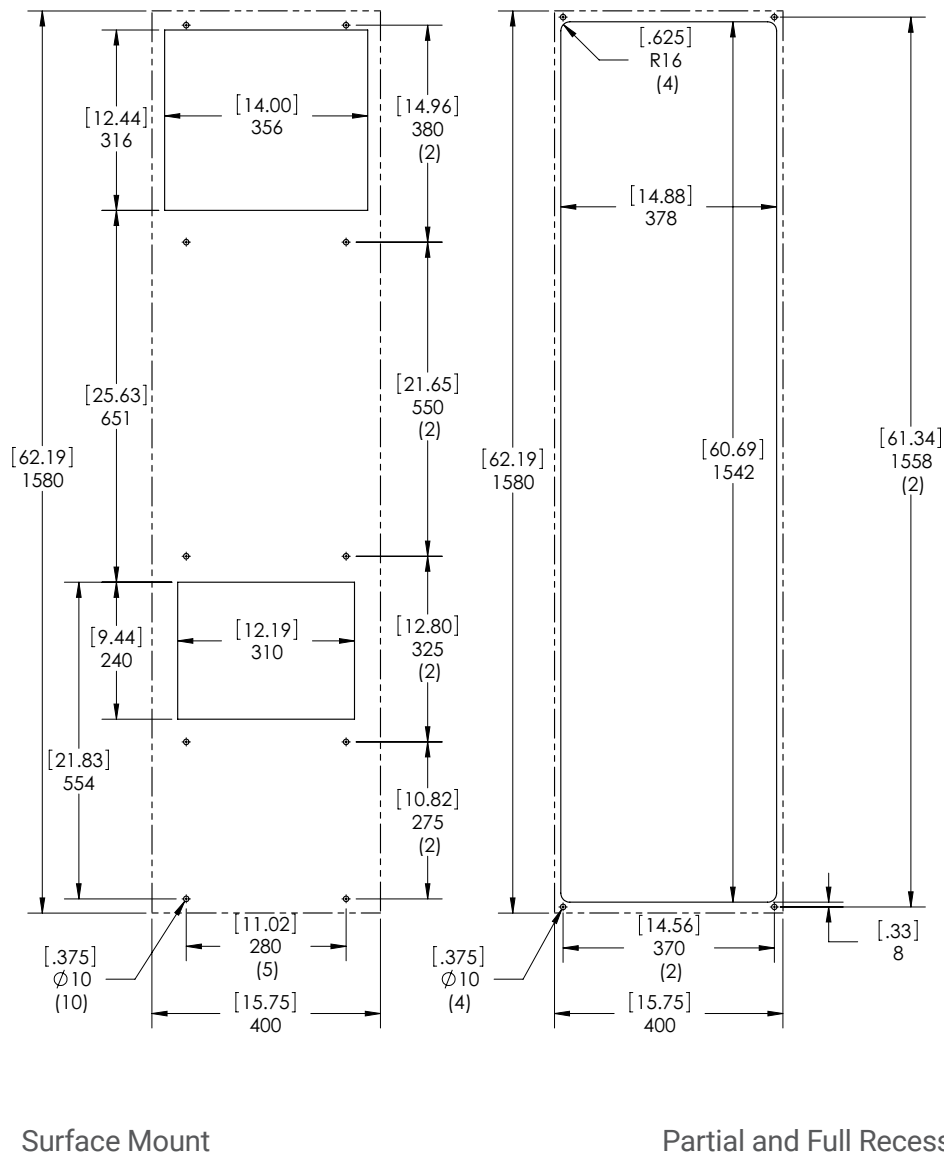
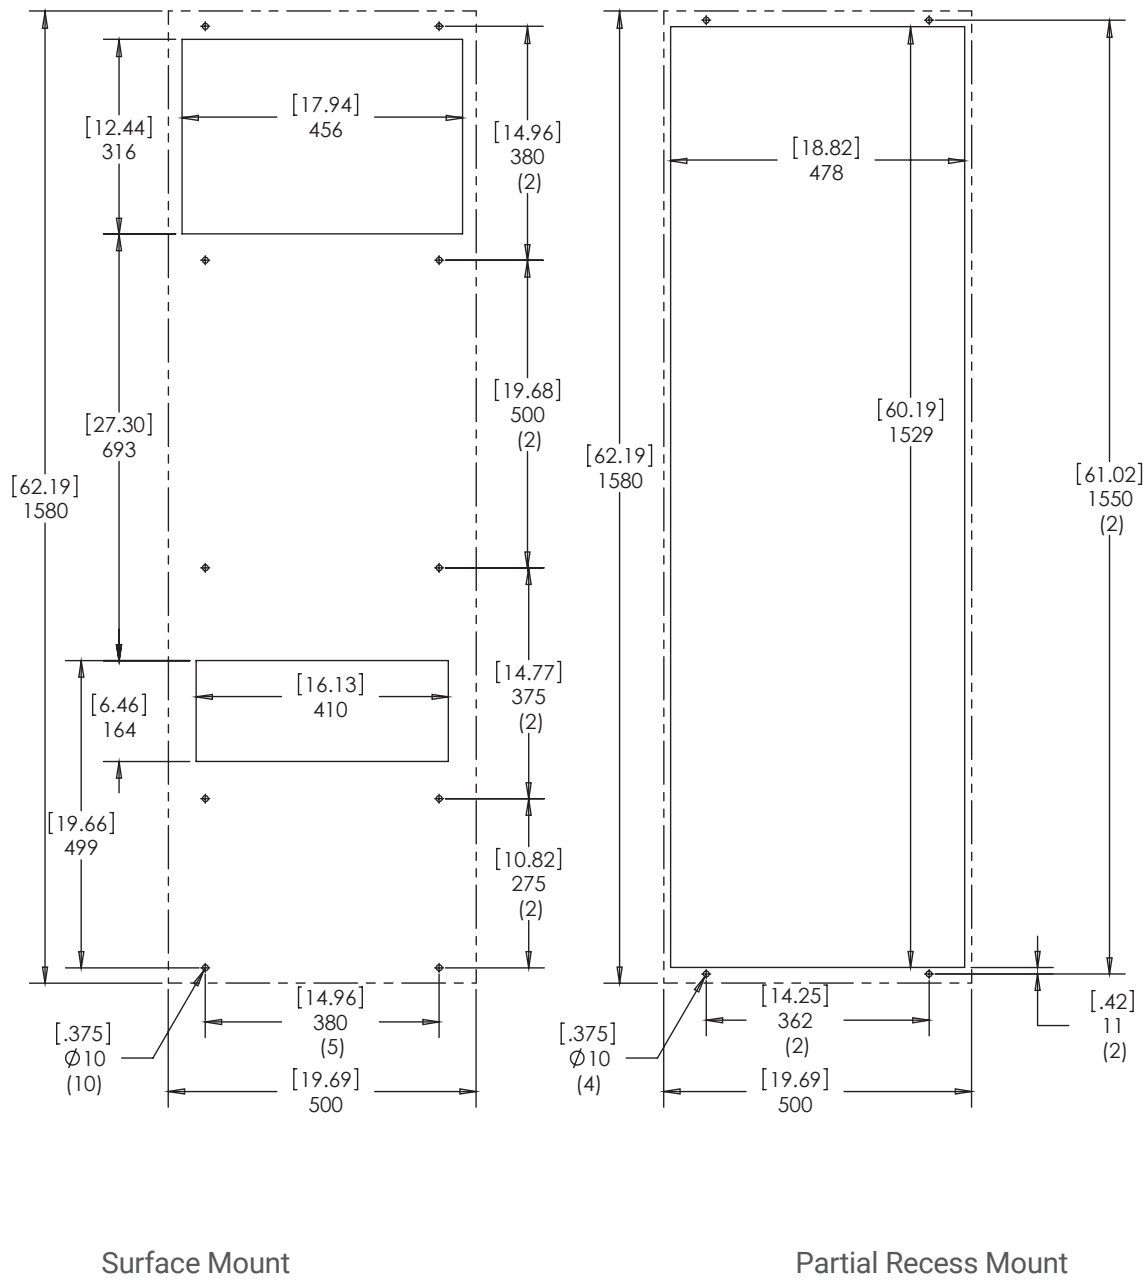

Figure 10
Figure 11
2. Using the cutout template provided with the unit, prepare the enclosure. See Figure 10 and Figure 11. The front of the unit requires a half meter clearance for proper airflow. Five centimeters is required on each side of the unit. To avoid condensate overflow, unit must be mounted within 3° of level.